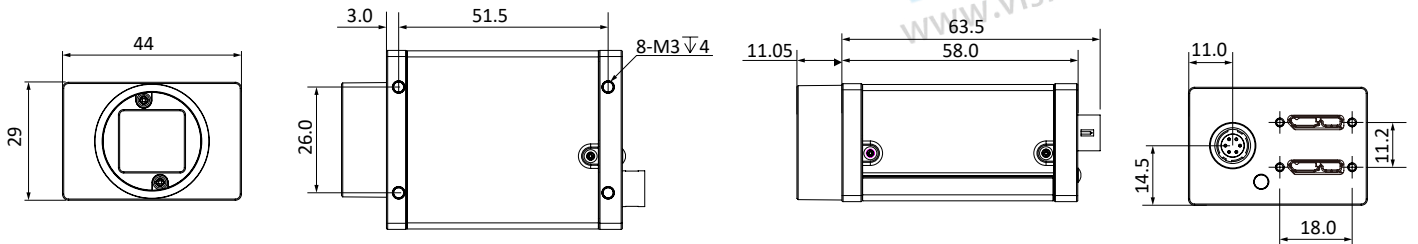

Fig. 1-6: Mechanical Dimensions (in mm) for Dual USB3.0 Cameras with 29 \* 44 \* 58mm flat housing.
- Dual USB3.0 Cameras with 29 \* 44 \* 58mm flat housing are as shown in Figure 1-6.